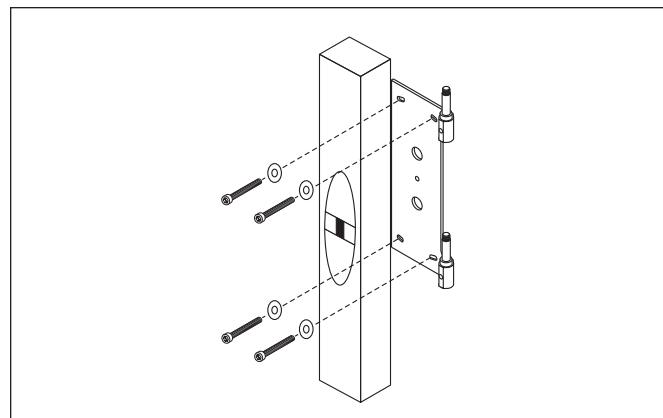

Figure 6. Steps 6-7
- 6 Using a level and a 3mm Allen tool, square the bracket and drive the four $1.5"$ Allen head screws and flat washers into the upper and lower wall anchors. Use a regular wood screw in any location that hits a stud. Do not fully tighten the screws (see figure 6).
- 7 Using a level, make sure the bracket is level and tighten all four screws (see figure 6).